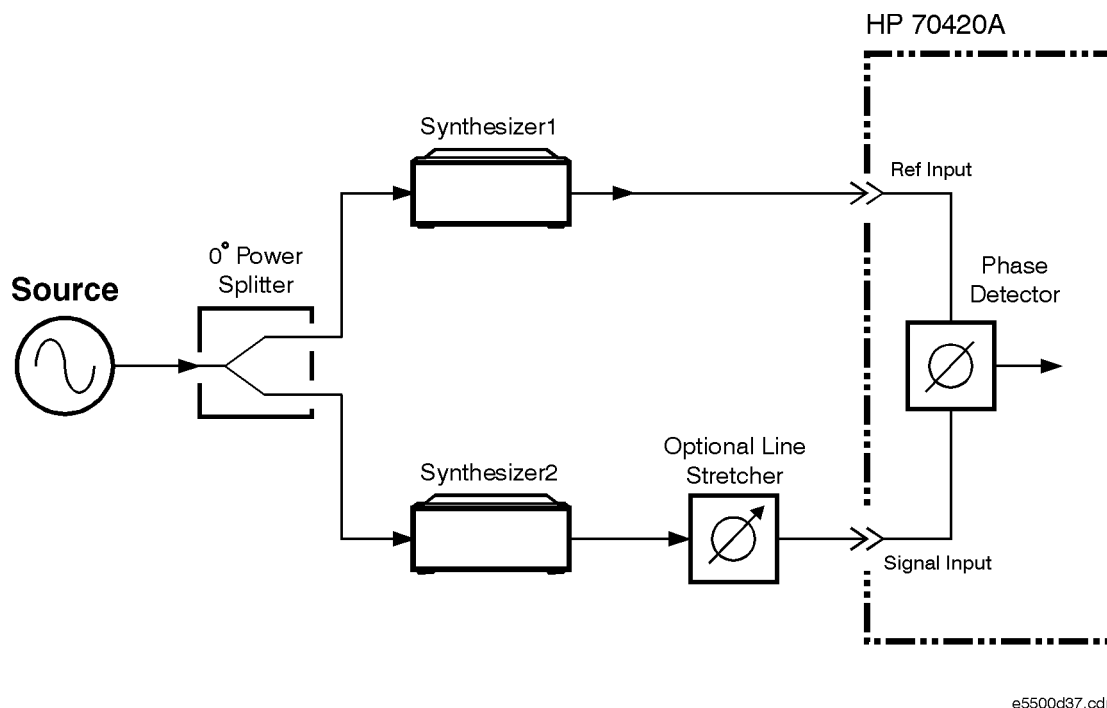

Figure 8-13 Synthesized Residual Measurement using Beatnote Cal
- 1 Connect circuit as per Figure 8-13, and tighten all connections.